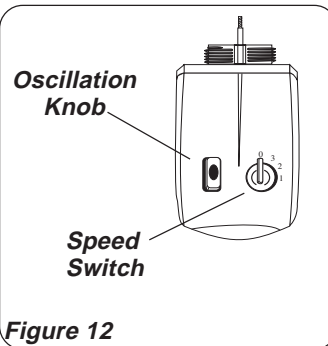

Figure 12
**SPEED:** Control fan speed with Speed Switch at rear of motor assembly. (Figure 12)